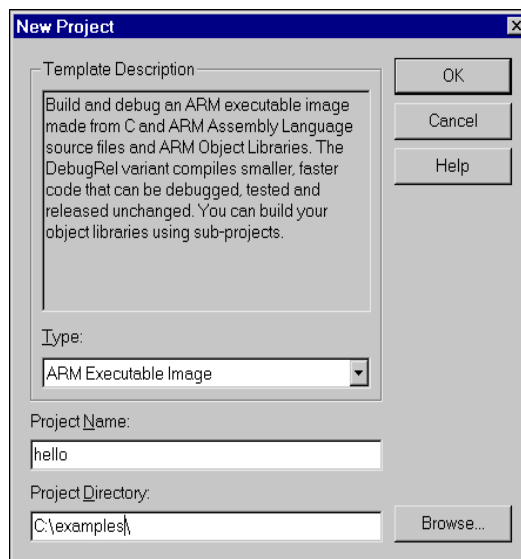

Figure 2-2 New Project dialog
3. Click **OK**. The New Project dialog is displayed (Figure 2-2).